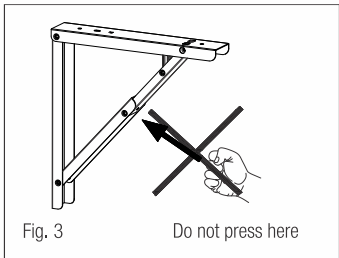

Fig. 3
3. Do not press and force the fittings to fold as shown Fig. 3.